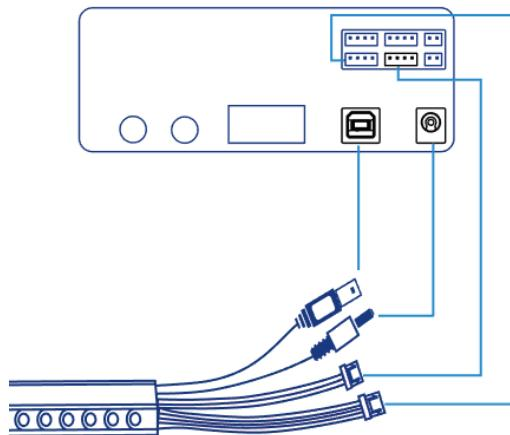

Figure 5.194 Connect V2 Sliding rail to V2 Dobot Magician
**Step 5** Connect the interfaces on the end of the wire set to Dobot Magician, as shown in Figure 5.194.